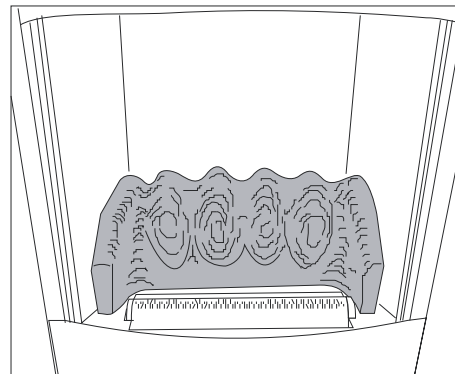

Figure 28
1. Position the rear matrix behind the burner as shown in **Figure 28**.